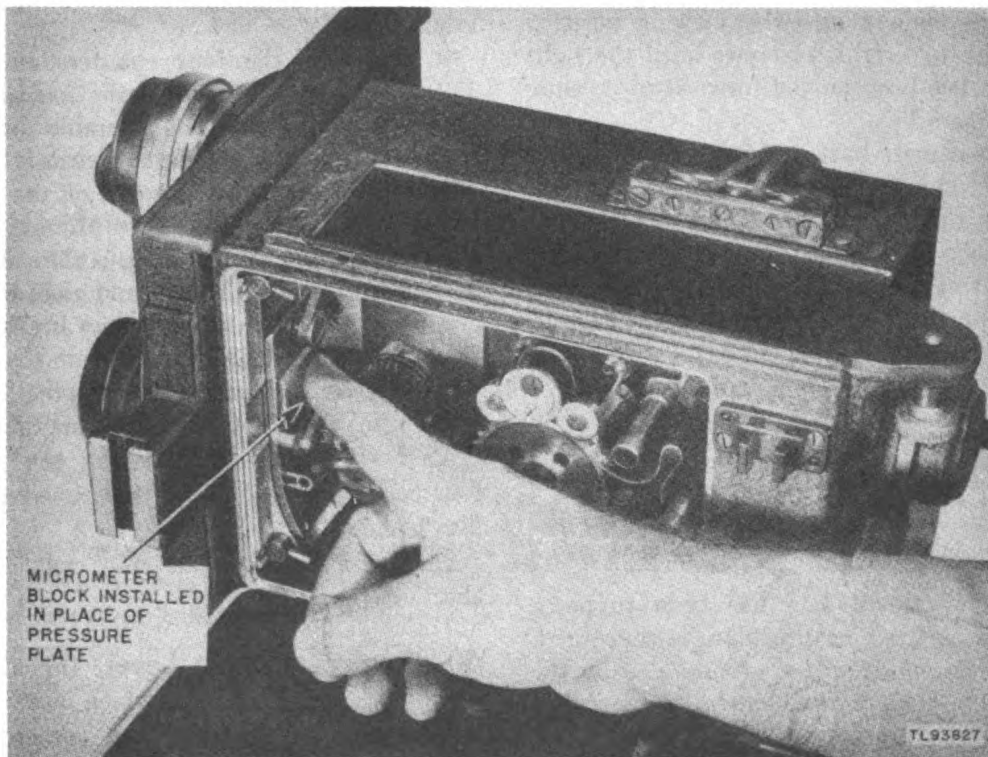

Figure 120. Positioning micrometer block.
58. Checking Camera Depth (figs. 120 and 121)
59. Correcting Camera Depth (figs. 120 through 123)